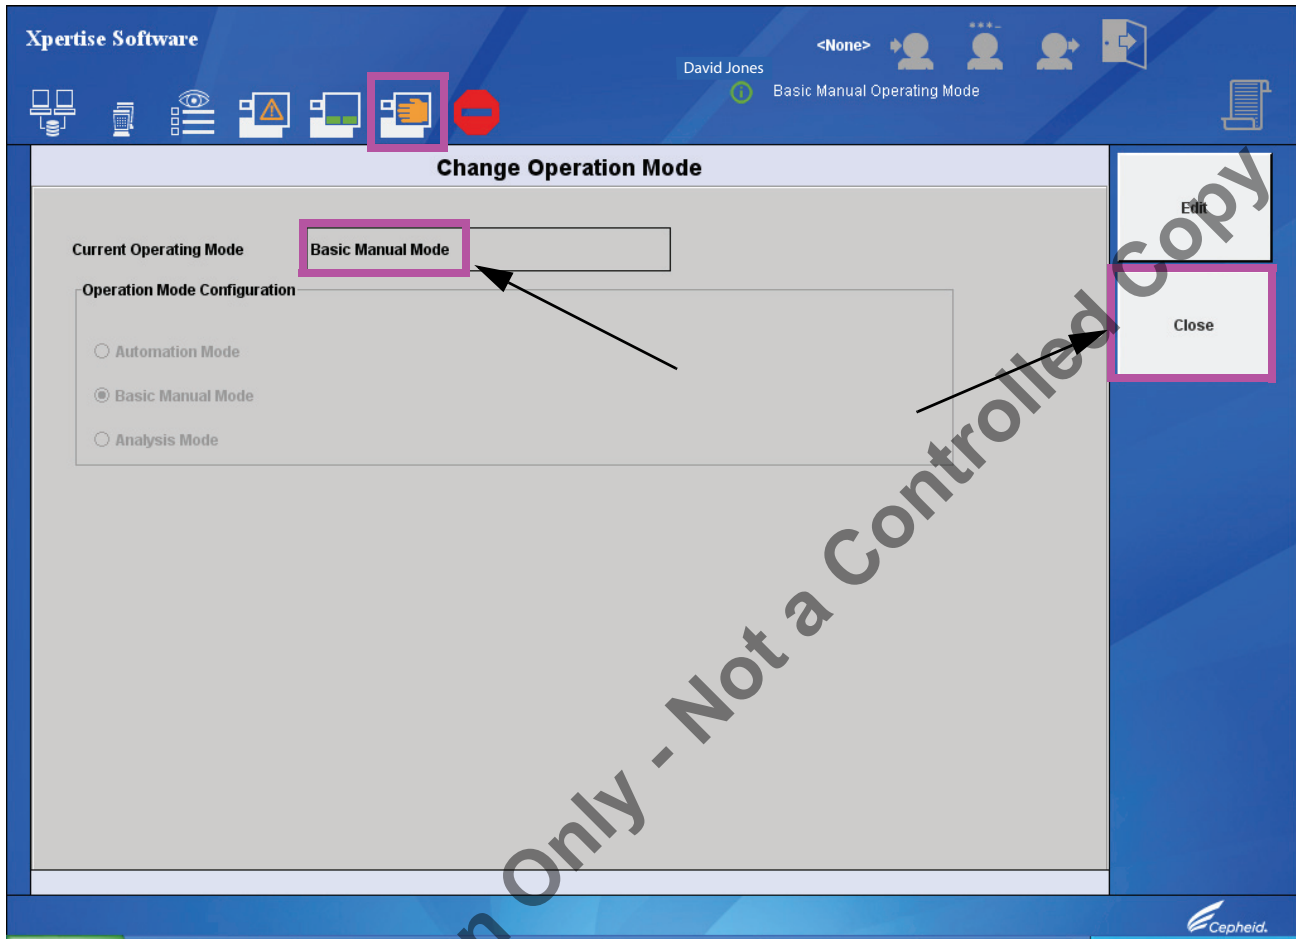

Figure 58. Change Operation Mode workspace indicating Basic Manual Mode
The Change Operation Mode workspace appears (Figure 58) with the Current Operation Mode changed to Basic Manual Mode, and Basic Manual Mode icon present in the dashboard panel.
11. Press the **Close** button (Figure 58).